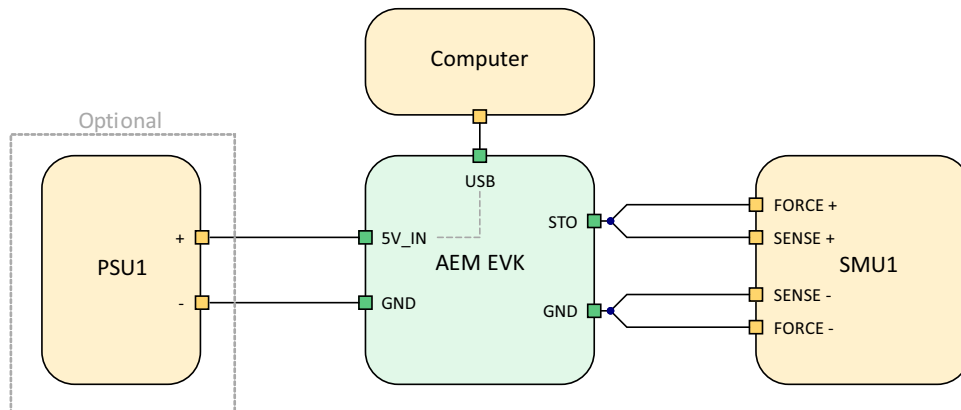

Figure 3: 5V charger APM calibration base setup
- Optional: as shown in Figure 3, a PSU can be used as energy source for the 5V charger if the user does not want to pull the charging current USB from the computer.
Wire the equipment as shown in Figure 3.
Referring to Figure 3, configure SMU1 as follows: